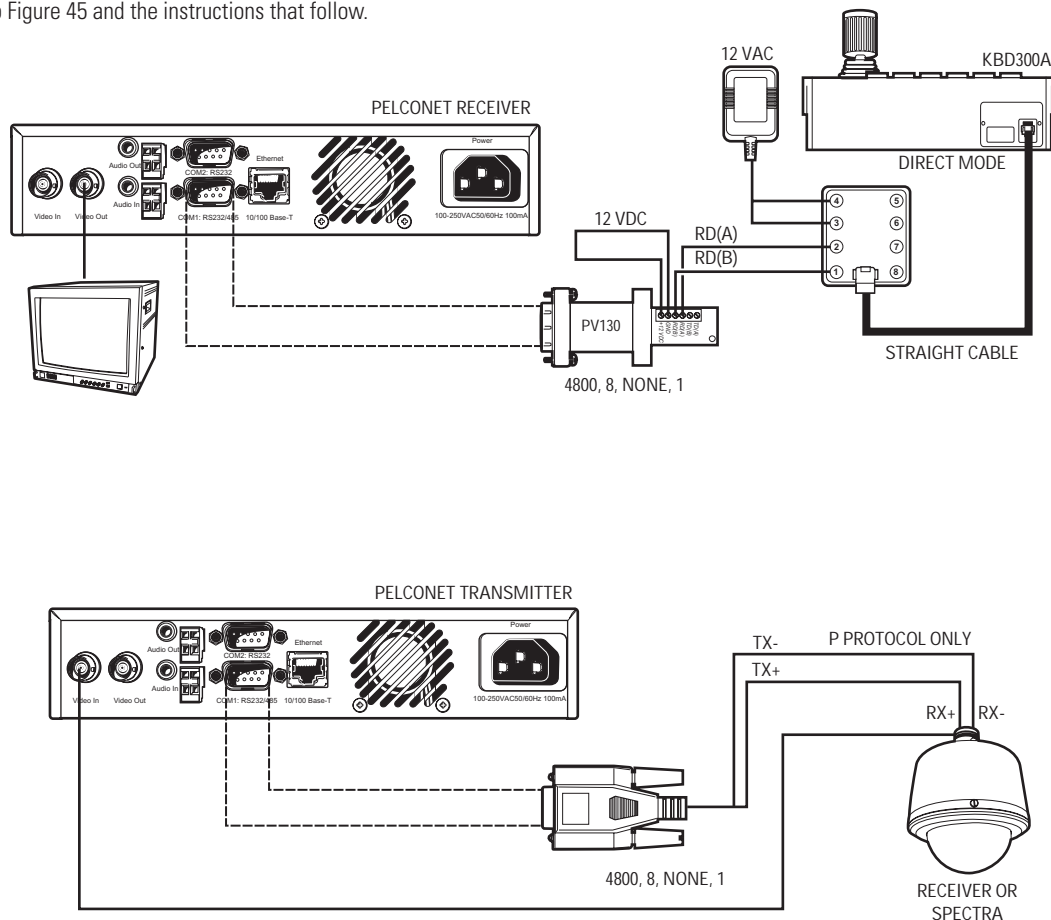

Figure 45. KBD300A (Direct Mode) Connected to a Receiver or Spectra Dome System
Refer to Figure 45 and the instructions that follow.
3. Connect RD(A) on the converter to terminal 2 on the wall block. Connect RD(B) on the converter to terminal 1 on the wall block.
8. Refer to Figure 44 and Figure 45. Splice the customer-supplied DB9 cable into the Spectra/Esprit or receiver cable. Use P protocol only.